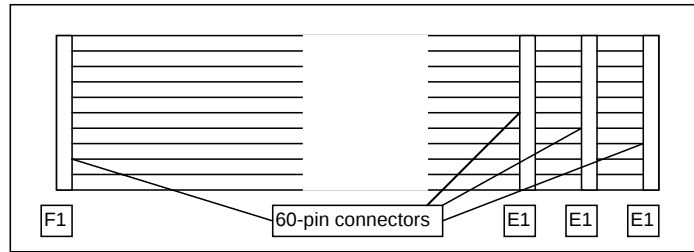
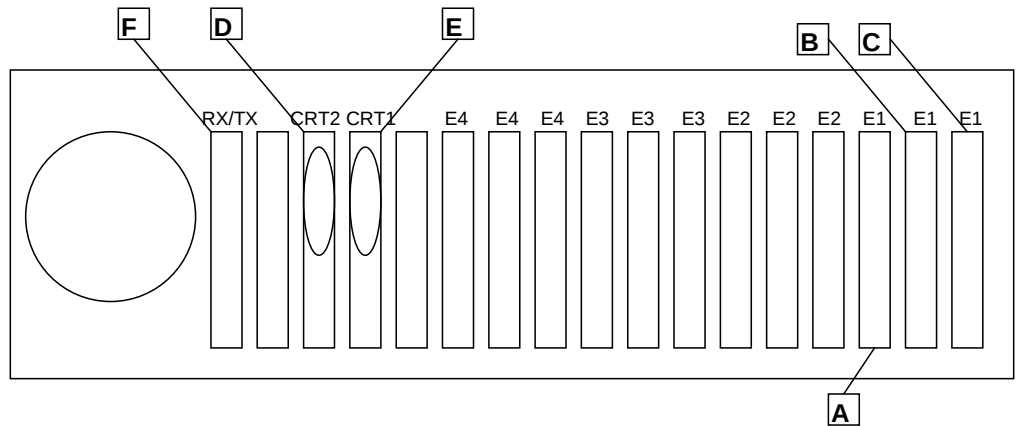

Figure 3. 60-pin Ribbon Cable for 6 bus system only
Figure 4. Expansion Chassis for 6 bus has the connectors grouped in three's
1. At the end of the Switch Matrix Cable #1 that is not connected yet, find the 60-pin ribbon connector marked "E1". There should be one to three 60-pin connections labeled "E", depending on the number of busses in the system, on that side of the ribbon cable (Refer to **Figure 3**). There should also be the same number of slots marked "E1" on Expansion Chassis #1. Refer to **Figure 4** to determine the location of the slots. Insert the end-most 60-pin connector into the rightmost "E1" slot on Expansion Chassis #1 (location **C** in **Figure 4**). Insert the middle 60-pin connector into the middle "E1" slot (location **B** in **Figure 4**). Insert the inner 60-pin connector into the leftmost "E1" slot (location **A** in **Figure 4**). Make sure that the red edge of
2. Insert the end-most 25-pin connector labeled “CRT1” (there should be three remaining 25-pin connectors on that cable for a 625-pin, 6-bus system, two connectors remaining for a 441-pin, 4-bus system, and one connector remaining for a 324-pin, 2-bus system) into the “CRT1” slot on Expansion Chassis #3 (location **E** in **Figure 4**). Insert the middle 25-pin connector labeled “CRT1” into the slot labeled “CRT1” on Expansion Chassis #2. Next insert the inner-most 25-pin connector into the slot labeled “CRT1” on Expansion Chassis #1. In the same way, insert the other 25-pin cable (with 25-pin connectors labeled “CRT2”), but into the slots labeled “CRT2” (location **D** in **Figure 4**) on each Expansion Chassis.
4. Find the connectors on the Transmitter/Receiver Ribbon Cable (one side is already connected to the computer) marked “RX/TX”. There should be one to three connectors marked “RX/TX” (one for each MT chassis), left unconnected, on the same Cable. Insert the end-most “RX/TX” connector into the slot on Expansion Chassis #1 marked “RX/TX” (location **F** in **Figure 4**). Insert the middle “RX/TX” connector into the slot on Expansion Chassis #2 marked “RX/TX”. Do the same with the inner-most “RX/TX” connector, but into Expansion Chassis #3. Make sure that the red edge of the Transmitter/Receiver Ribbon Cable is facing up.